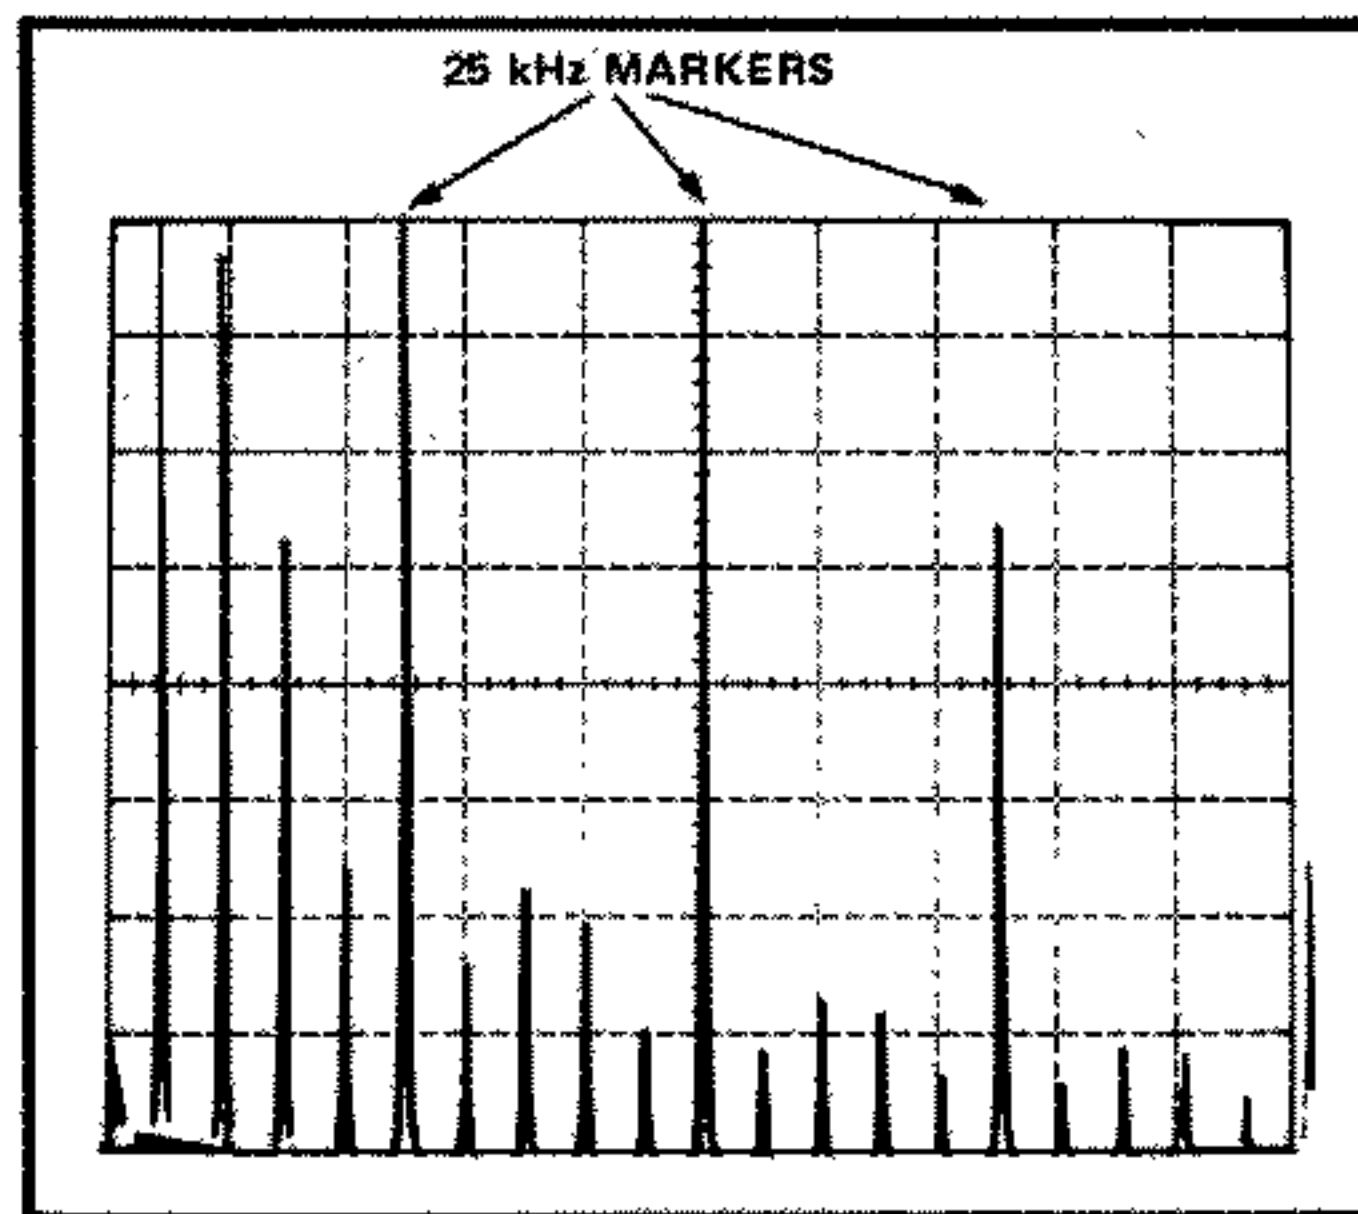

Fig. 3-4. 5 kHz FREQ COMB showing location of 25 kHz markers for checking frequency accuracy.
3. Set the SPAN/DIV to 10 kHz, RESOLUTION to AUTO, and sweep rate for a satisfactory display (see Fig. 3-4). Note the higher amplitude 25 kHz markers.